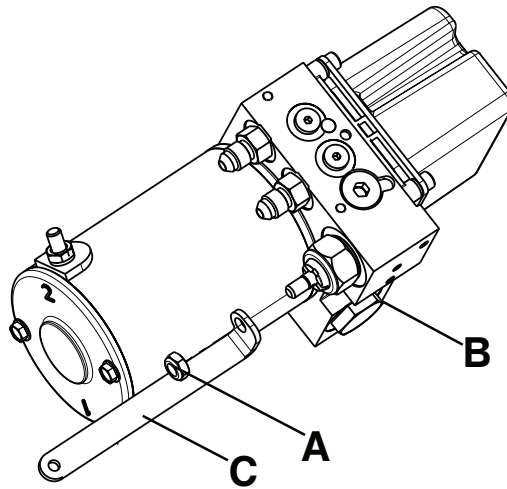

Figure 38 – Non-locking manual valve
5. Using a 7/16" deep well socket and 3/8" drive ratchet, remove the Nylock hex nut (A) that secures the non-locking manual valve (B) to the manual release link (C) (Figure 38). Save the nut.
Note - Place a 1/16" hex wrench through the slot on the non-locking manual valve (B) to keep the valve from turning (Figure 38).
6. Using a 7/8" deep well socket and 3/8" drive ratchet, remove the non-locking manual valve (B) (Figure 38). Discard the valve.